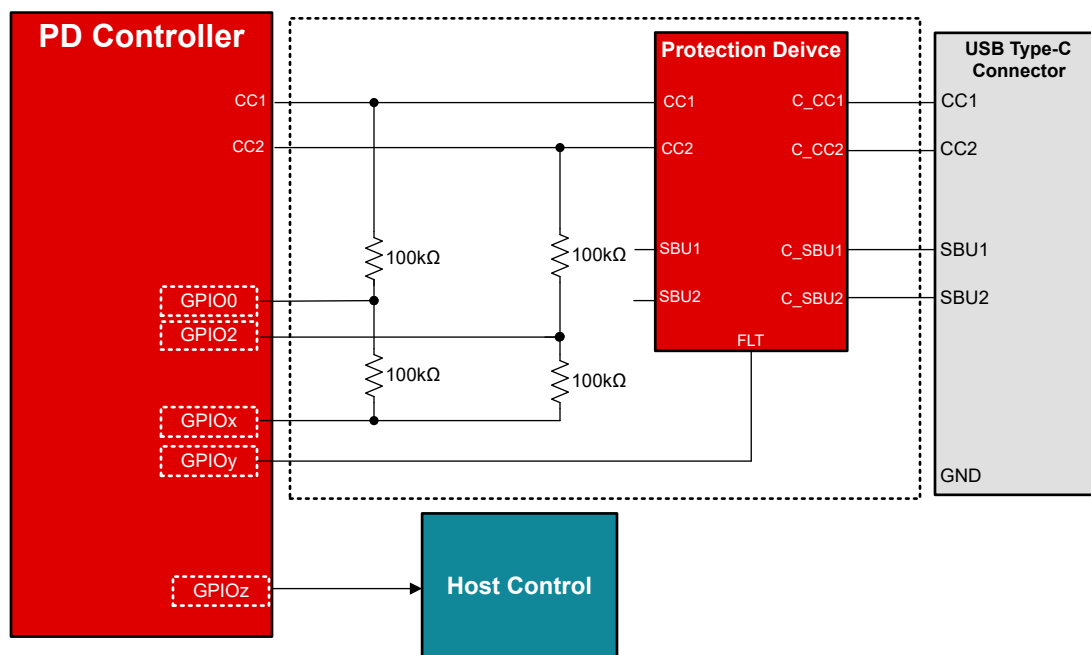

Figure 2-1. CC lines Hardware Implementation
Both the required and optional GPIOs are depicted in Figure 2-1. In this specific example, the CC pins are used for monitoring, while the SBU lines are left floating. For further details on each pin's function, please refer to the Section 2.1.1.
As shown in Figure 2-1, GPIOx is used for controlling the bias voltage on the monitoring pins. GPIOx is tied to both GPIO0 and GPIO2 through a resistor. The recommended minimum resistance for the resistor used in the sampling of the measurement pins is 100kΩ.
GPIOx (refer to Figure 2-1) is configured through the GUI tool. The default configuration for the TPS25751A, GPIO7 is set as the *GPIO Mapped Event [351:344]*¹ as *LIQUID_CONTROL (155)*.